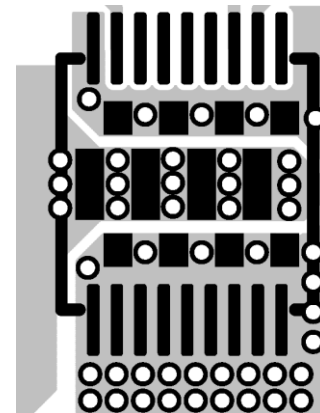

Figure 3—Via Placement Guideline
- 4) Do not place via on the pad or on the pin footprint. Doing so may cause soldering issue during the assembling process. Use Figure 3 as a via placement reference.